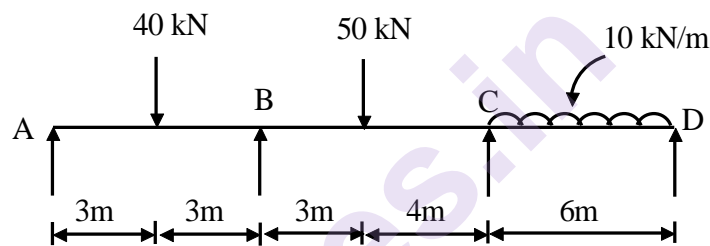

Fig.1
1. A continuous Beam shown in fig. 1. If the support 'B' sinks by 10mm, find the moment and reactions at support and draw SFD and BMD by three moment theorem. 16